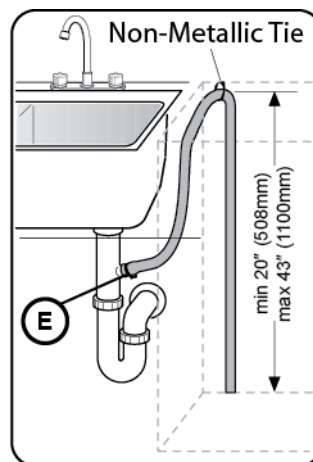

Figure 10
1. Directly under the sink dishwasher drain connection, as shown in **Figure 10**.